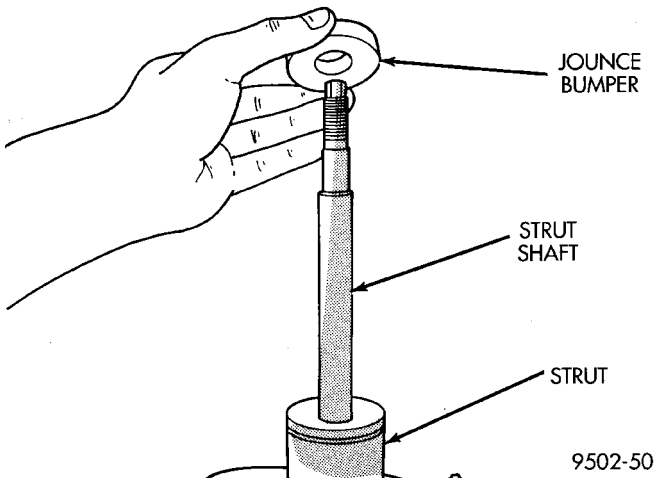

Fig. 33 Jounce Bumper
(10) Remove the jounce bumper (Fig. 33) from the shaft of the strut assembly.
- (2) Install jounce bumper on strut shaft (Fig. 33).